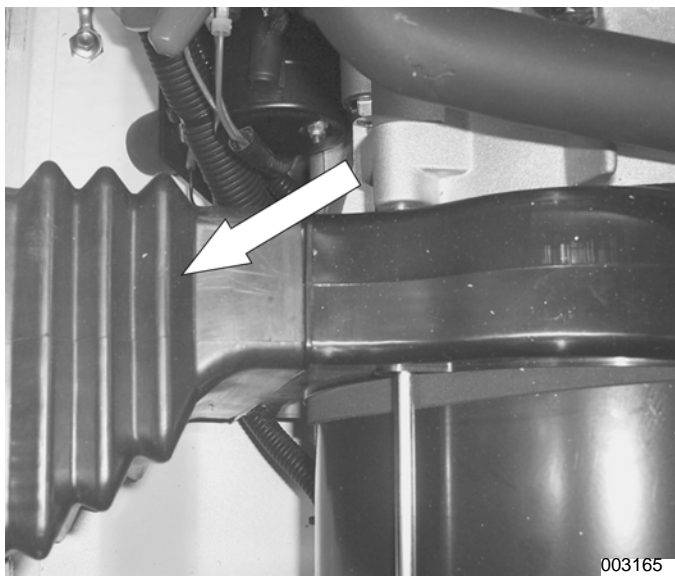

Figure 5-63.
23. **Alternator Air Intake Bellows Removal:** See Figure 5-63. Remove alternator intake bellows.